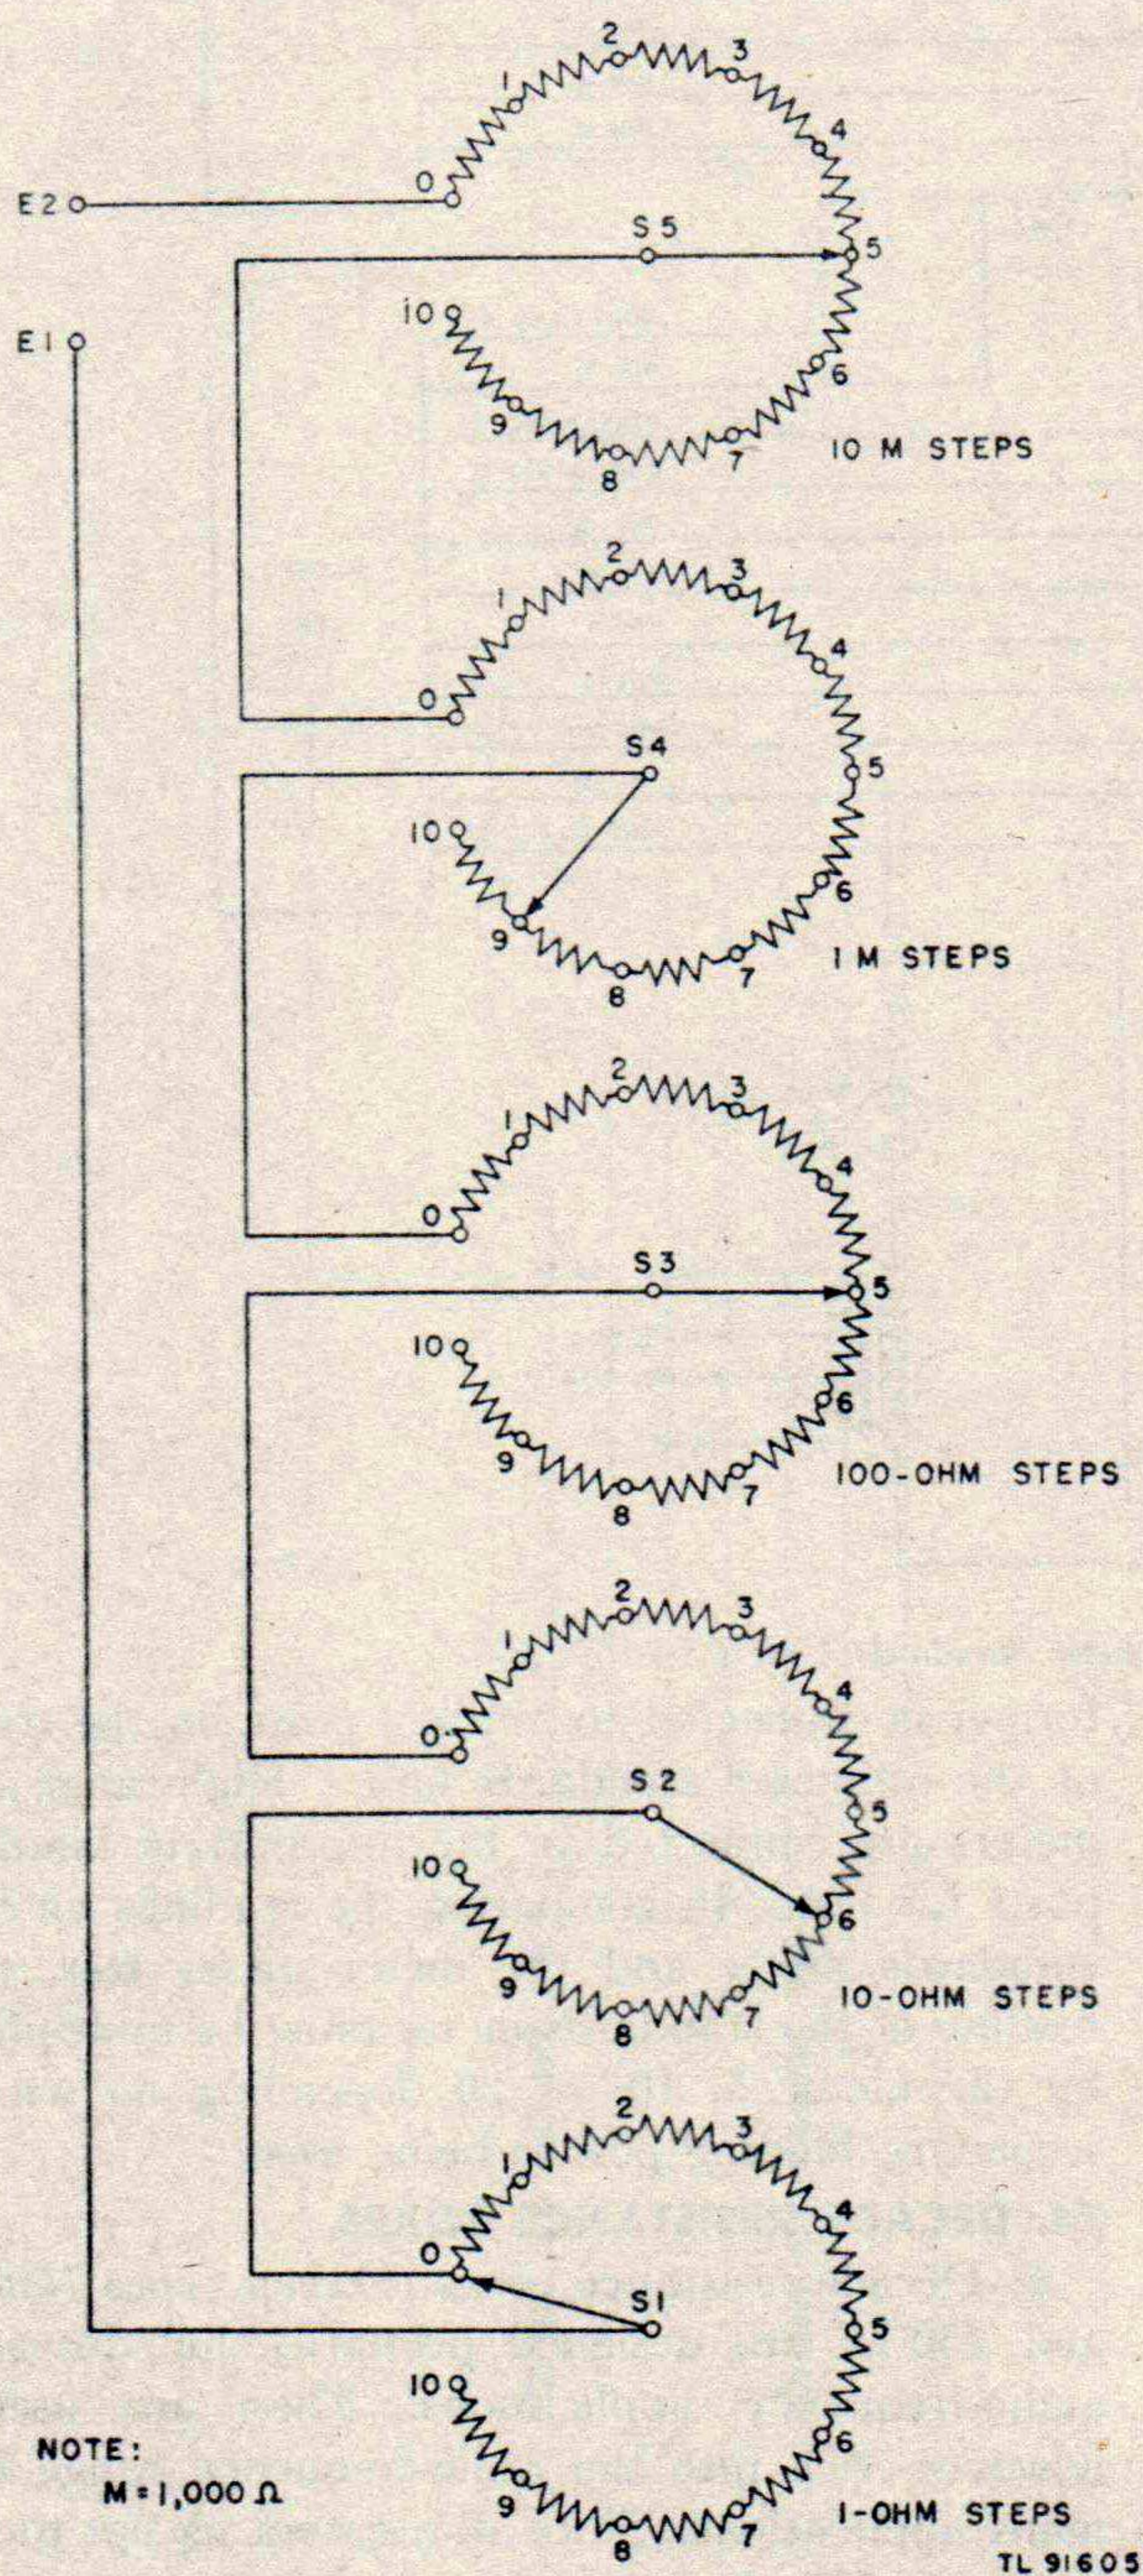

Figure 37. Schematic diagram of decade resistance box.
d. The wiring of the decades presents a simple series circuit to any potential applied between the terminal binding posts E1 and E2. The desired resistance value can be placed in the circuit by setting the switches on the correct contact studs. For example, with the switches set as shown in figure 37, the resistance of the type 750-L box would be 59,560 ohms; the resistance of the type 750-K box would be 5,956 ohms.